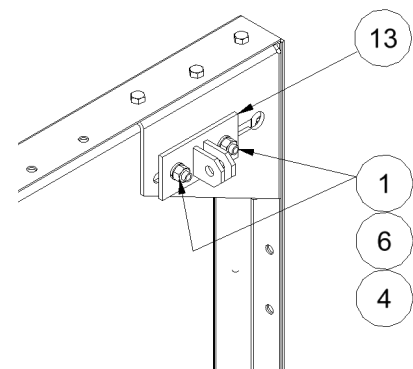

Figure 6
- Attach the backboard brace brackets, item 13, to the top corners of the backboard as shown in figure 6. Use the 3/8-16 x 1" carriage bolts with lock washer and nuts for this assembly.